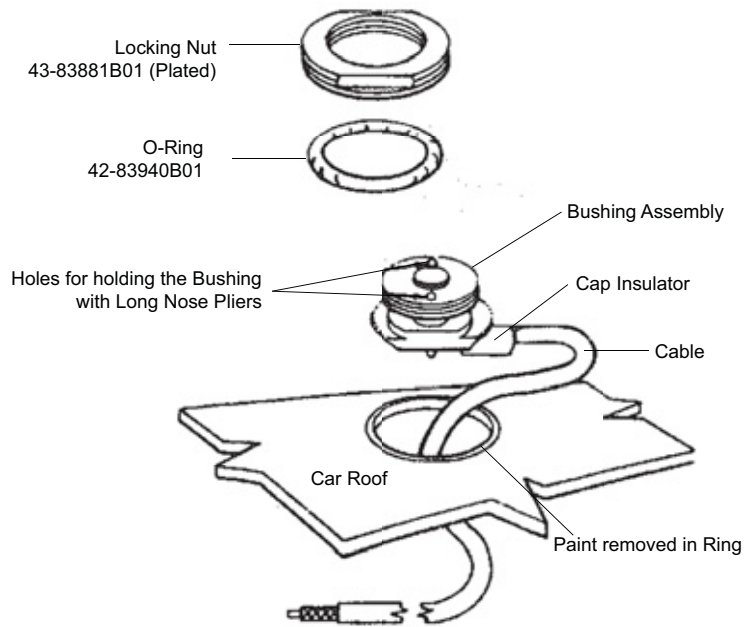

Figure 4.
4. Insert spanner wrench, part # 66-80371A75 or the tops of a needle nose pliers in bushing assembly to prevent mount assembly from slipping. Use a 15/16" open-end wrench to tighten locking nut firmly against vehicle surface. The locking nut must be in contact with vehicle metal to ensure proper antenna radiation. See Figure 4.